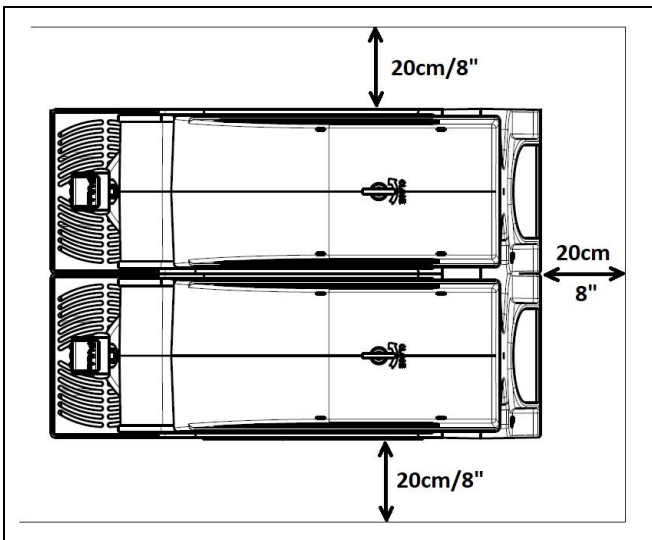

Fig. 19
- c) Rest the machine on a sturdy, horizontal surface making sure it is well ventilated by leaving a gap of 20 cm around it and do not install it near heat sources (fig.19); **we recommend you to maintain a room temperature between 24 and 32°C (between 75 and 90°F).**